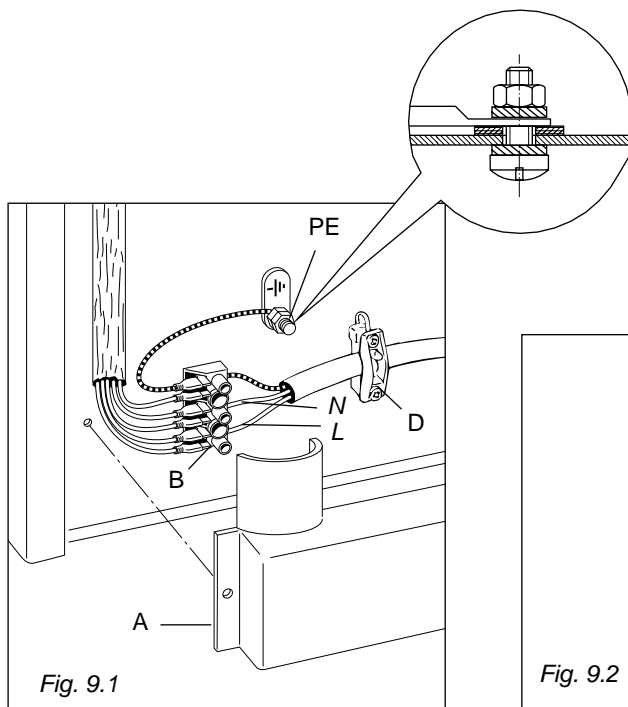

Fig. 9.1
- Connect the phase wires to the terminal block “B” and the earth wire to the terminal “PE” (fig. 9.1).